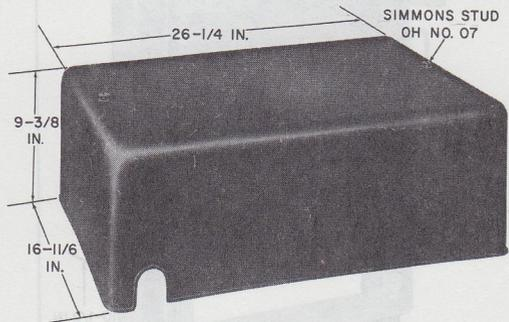

Fig. 34—117A Cover
8.02 The 117A cover (Fig. 34) is designed to enclose: